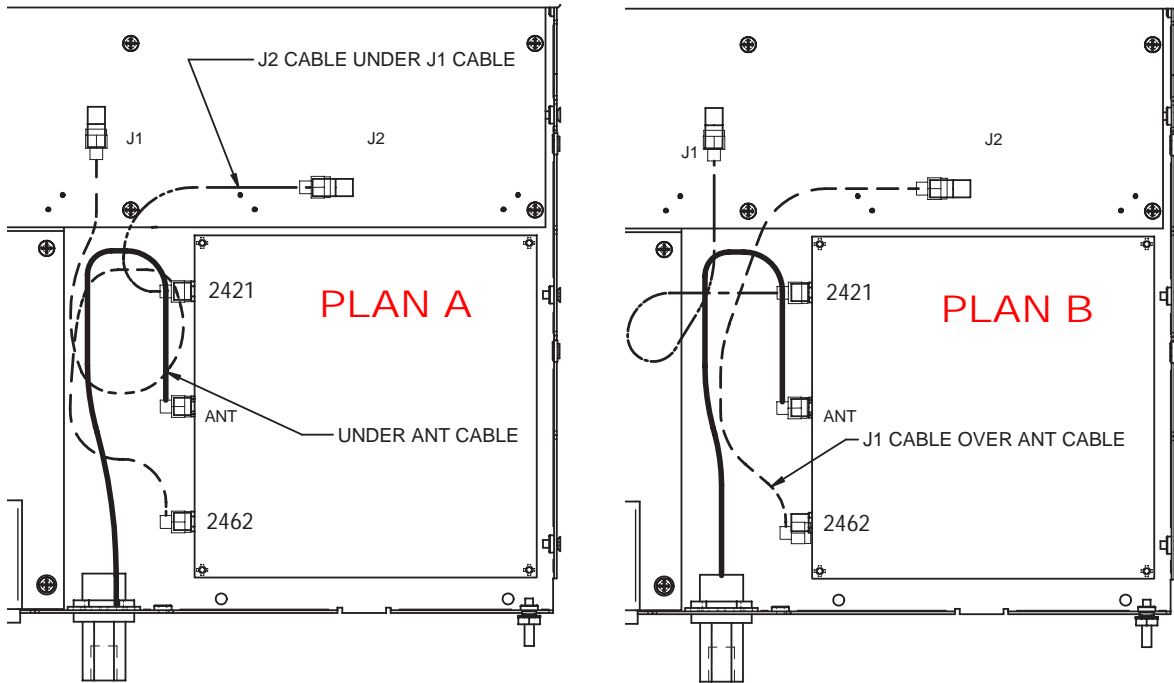

Figure 4. TRACER 4102 Cable Routing Diagrams
- Carefully flex the cables to swap the connections. Be careful with the RF cables, making sure that the minimum bend radius of the cable is greater than 0.75"; bends and loops smaller than a quarter will cause the RF cable to break. Use the wiring guidelines in Figure 4 and Figure 5 on page 4 for help with wire placement. Click here for a digital picture of this step.